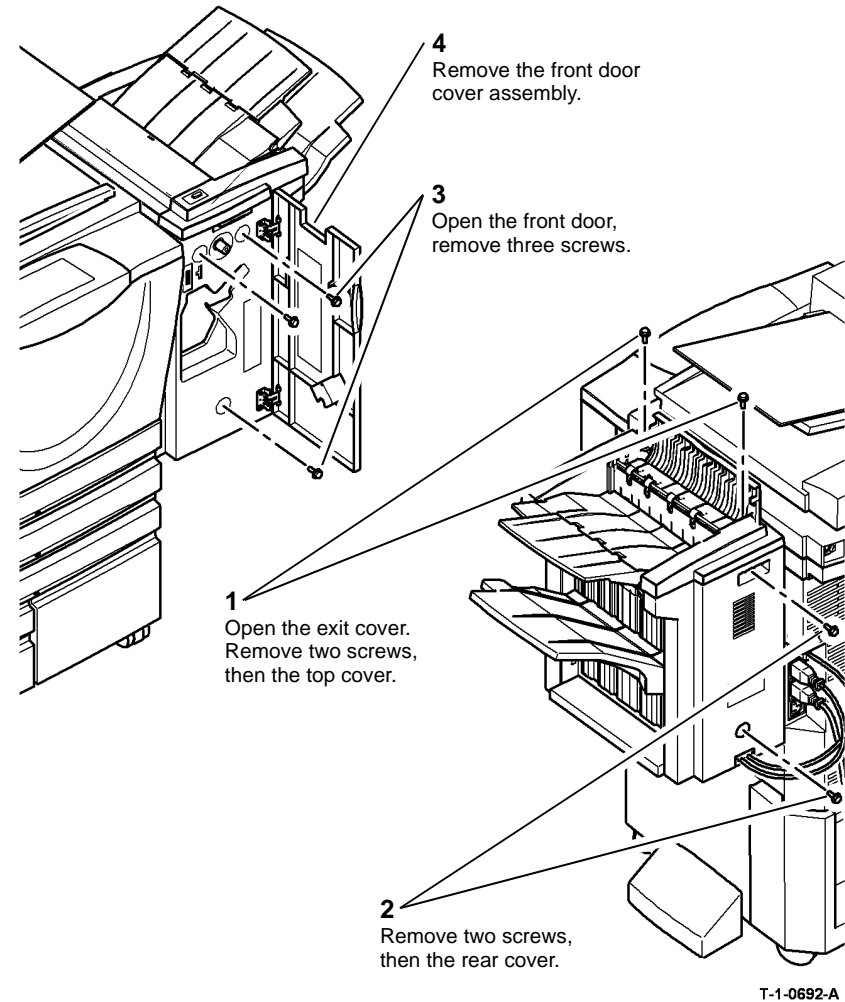

Figure 1 Removing the covers
1. Remove the covers, Figure 1.